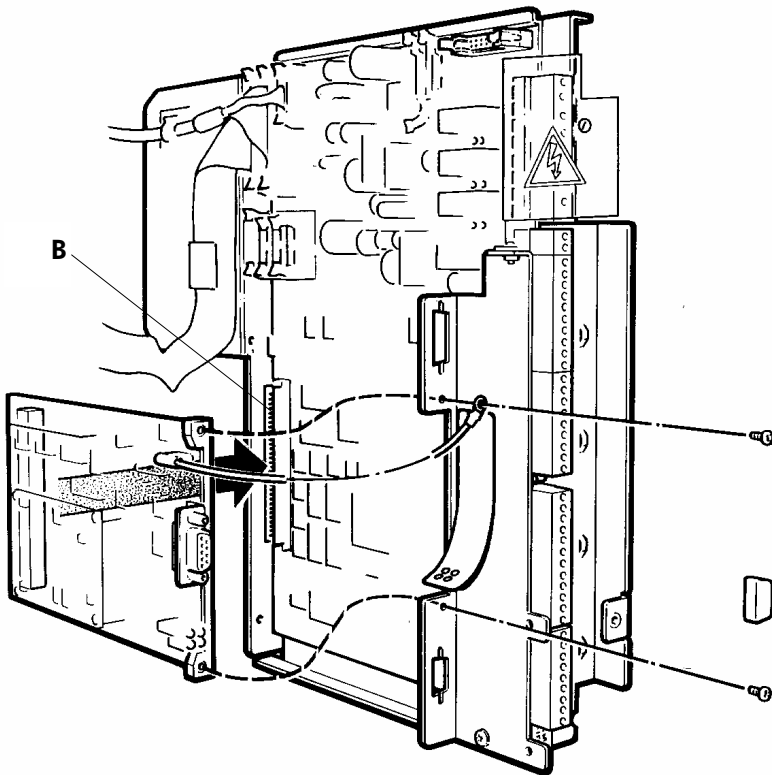

Figure 3-8 Drive module – fitting the PROFIBUS board
5. Fit the PROFIBUS board into the 96-way socket (B) at the back of the control board, as shown in Figure 3-8. Secure it to the steel front plate with the two screws provided, locating the ring crimp of the free yellow/green earth lead (A) under one of the screws.
6. Attach the label (C) if supplied, and fit dust covers (D) to any PROFIBUS connector that will be exposed for a lengthy period, see Figure 3-8.